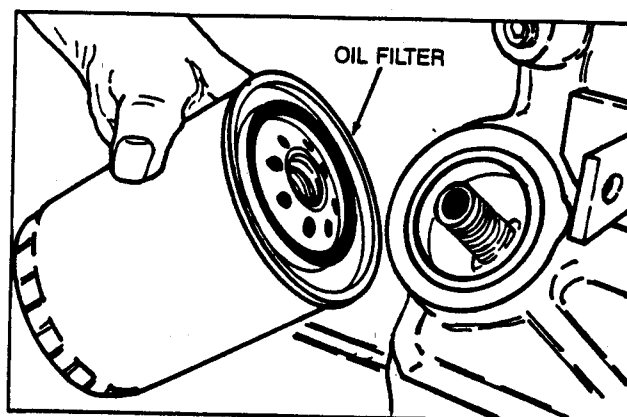

Figure 1. Removal of Oil Filter
- Clean the mounting surface for the filter. See Figure 1.